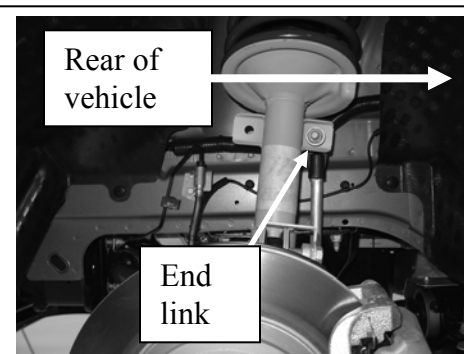

Figure 3
4. Put the sway bar end link stud into rear most hole on strut tower, tighten using a ½" impact gun with a 18mm deep socket. (Figure 3) **Torque to 85 ft.-lbs.**